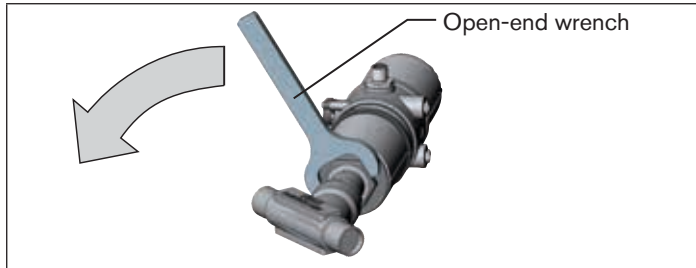

Fig. 7: Rotating with open-end wrench
- ▶ Rotate the actuator module in the specified direction only ("Fig. 7")!